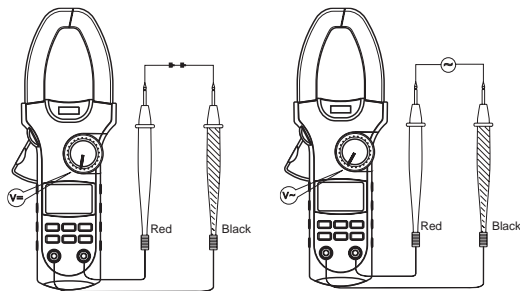

Figure 3
A.DC/AC Voltage Measurement (see figure 3)